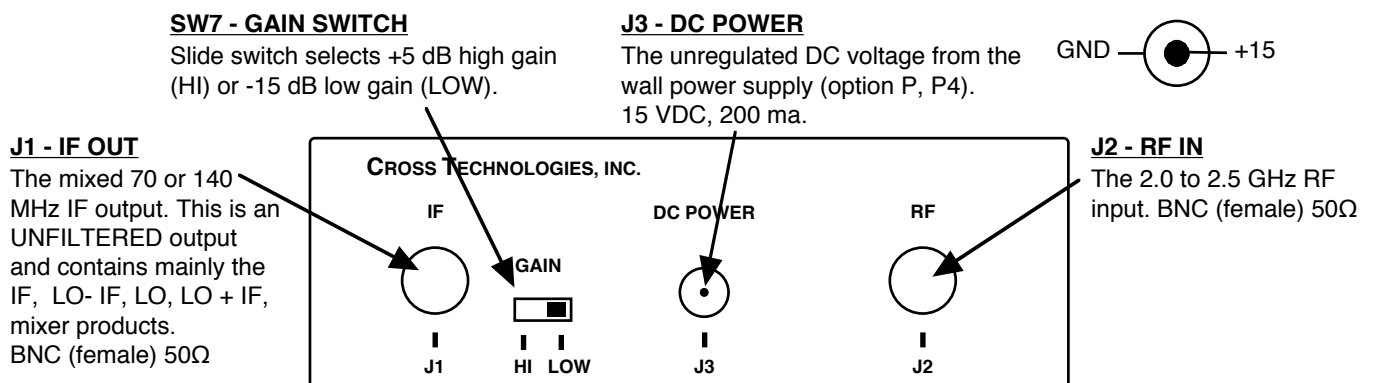

FIGURE 2.2 2005-20 Rear Panel Inputs and Outputs
2.3 Rear Panel Input/Output Signals - Figure 2.2 shows the input and output signals to the 2005-20.
1. If using the receiver LNB voltage to power the 2005-10, be sure +14 to +24 VDC is on the RF center conductor. If using the wall power supply (**options -P or -P4**), connect the power supply to the DC POWER connector and either 120 VAC (**-P**) or 100-240 $\pm 10\%$ VAC (**-P4**) (Figure 2.2)
3. Select either HI or LOW GAIN using the switch (SW7) on the rear panel (Figure 2.2).
4. Connect a -10dBm max RF signal to RF In, J2 (Figure 2.2).
5. Connect the IF Out, J1, to the modulator under test (Figure 2.2).